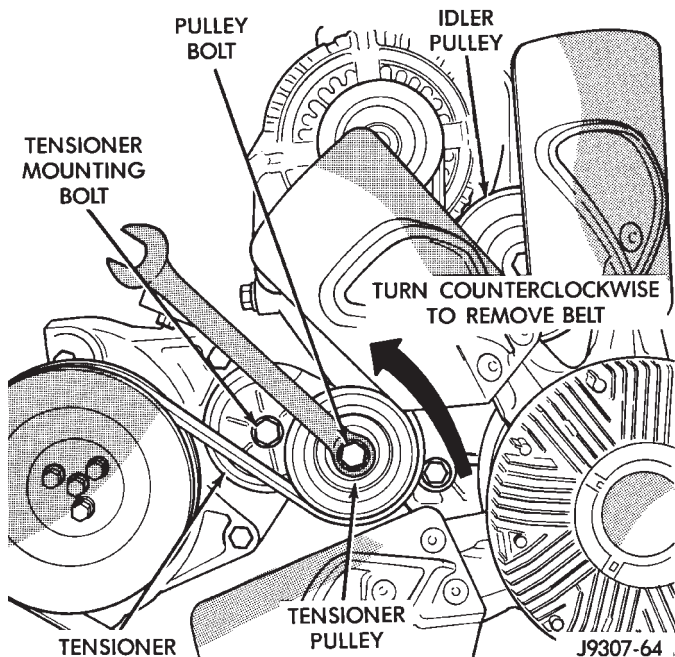

Fig. 95 Belt Tensioner—5.9L HDC-Gas and 8.0L v-10
- (1) Remove accessory drive belt. Refer to Belt Removal/Installation in this group.
- (2) Remove tensioner mounting bolt (Fig. 95) and remove tensioner.
(1) Remove accessory drive belt. Refer to Belt Removal/Installation in this group.
(2) Remove tensioner mounting bolt (Fig. 95) and remove tensioner.